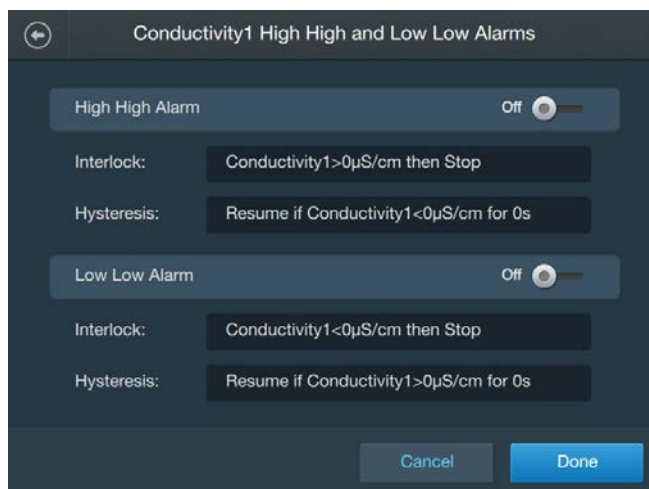

Figure 3.38. High High and Low Low Alarms screen.
9. On the screen that appears (Figure 3.38), there will be separate sections for both High High and Low Low alarms. Slide the Enable/Disable buttons on each section to the “Enable” side to enable the alarms.